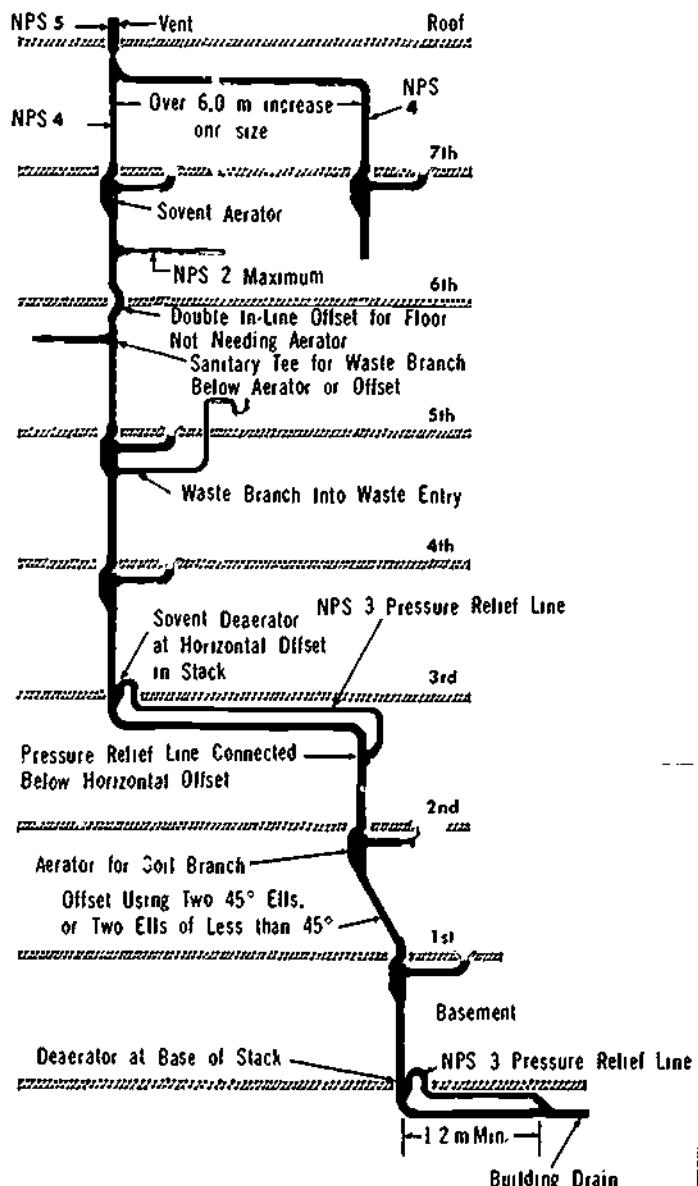

Figure 37-4. Sovent Design Features
19. A summary of Sovent design features is given in Figure 37-4. The incorporation of some of these features is dependent on the individual circumstances. Each Sovent system must be designed to meet the conditions under which it will operate, and engineering judgment is required in applying the rules of basic design to a specific building.